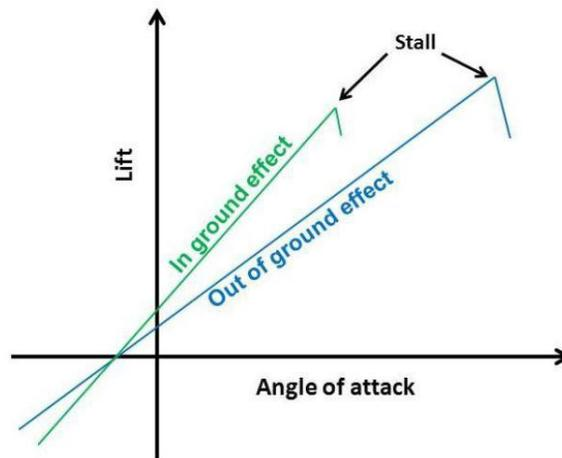

Figure 3, Critical AoA Change in Ground Effect, from NTSB report on G-650 accident
2. **Ground Effect.** Ground effect does two things. First it tends to lower the critical angle by some amount. This amount is very difficult to determine. Short of extensive CFD, we are left guessing to some extent. All is not lost however, since the lift curve slope increases at the same time. Effectively this means you can produce the same lift as before, but it will occur at a lower angle of attack (Figure 3). Flying our home-built aircraft, we are generally not too worried about this level of detail, but it can be deadly in aircraft that use AoA as a guide. The Gulfstream G-650 crash during certification flights in 2011 was caused by an incorrect estimation of the critical AoA in ground effect. The real decrement from the 'out-of-ground-effect' critical angle was higher than assumed and so the pilots were pulling up too far during simulated single engine take-off testing and stalled. The stick shaker was also set too high for the same reason and did not activate until well into a stalled condition.